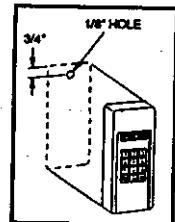

Figure 2
1. Hold the Codekey where you wish to mount it; then make a small mark on the wall at the top of the unit near the center. Drill a 1/8" hole 3/4" directly below this mark. See Figure 2.